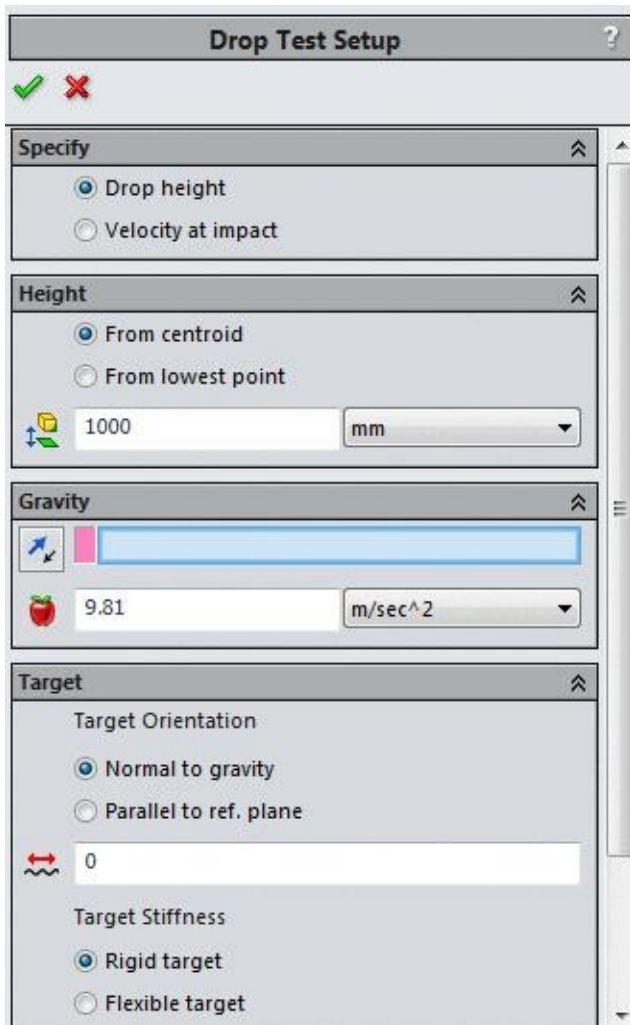

Figure-8. Drop Test Setup PropertyManager
- Click on the **Define/Edit** button from the menu. The **Drop Test Setup PropertyManager** will be displayed; refer to Figure-8.